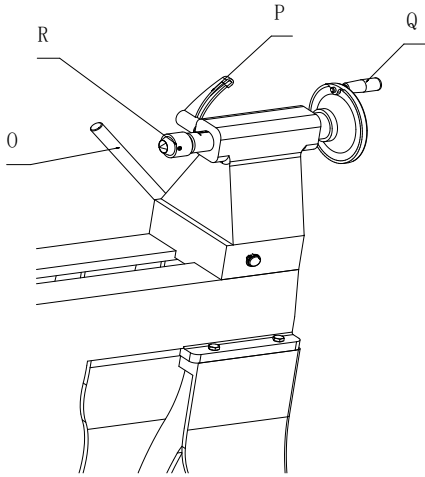

FIG. 7
13. **Tailstock Lock Handle:** (O, Fig. 7) Locks the tailstock in position. Unlock handle to position the tool rest in any location along lathe bed. Tighten handle when properly positioned.
14. **Tailstock Quill Lock Handle:** (P, Fig. 7) Locks the tailstock quill in position. Unlock handle to position the quill. Tighten handle when properly positioned.
15. **Tailstock Quill Handwheel:** (Q, Fig. 7) Turn the handwheel to position the quill. The tailstock quill lock
16. Tailstock Live Center: (R, Fig. 7) Used for turning between centers. Quill taper is MT-2. Remove live center by retracting the quill until live center loosens. Remove, or add different tips to the live center by inserting the provided rod through the holes in the center's shaft. Unscrew the tip and change as needed.